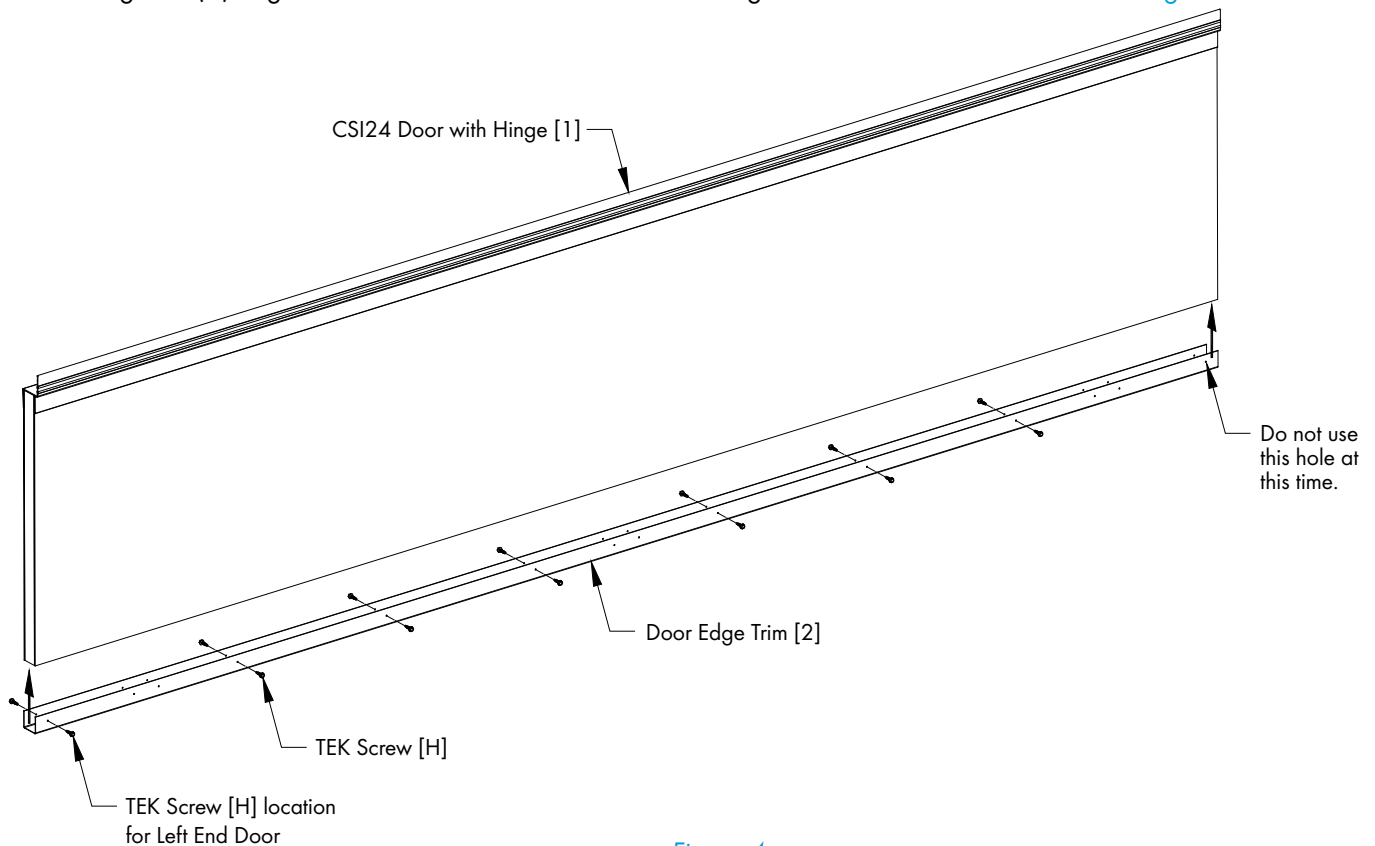

Figure 4
Slide Door Edge Trim [2] onto the bottom edge of the CSI24 Door [1] and secure it with (14) TEK Screws [H] through the (6) single holes in the middle area of the Door Edge Trim and the left most hole. See Figure 4.